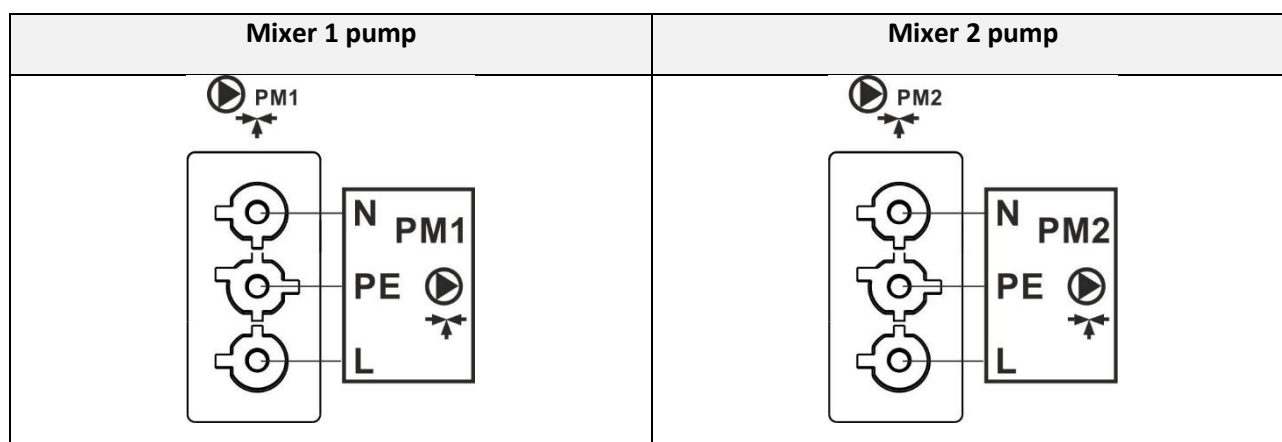

Figure 25. Wiring diagram of Mixer pumps
- connect the Mixer pump via the connector on the top of the switchboard to the controller (see Figure 25) according to the technical documentation of the pump manufacturer.